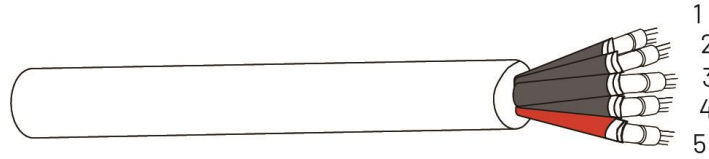

Figure 4-20
2. Crimp the five cables as figure 4-20: